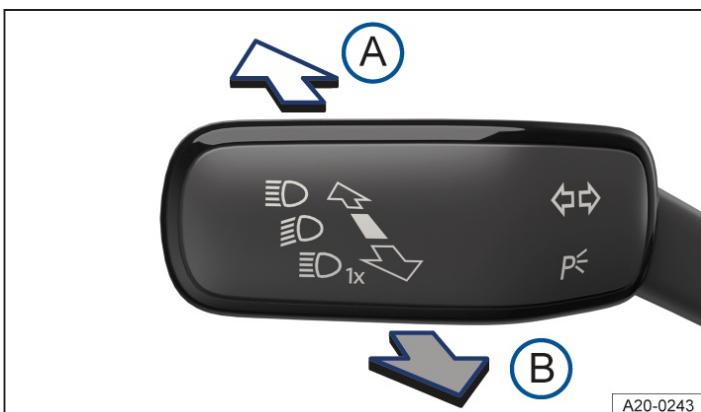

Fig. 1 On the left side of the steering column: turn signal and high beam lever.
2. Press the turn signal and high beam lever forward out of the center position → *fig. 1*.
1. Pull the turn signal and high beam lever backward out of the center position → *fig. 1*.
1. Pull the turn signal and high beam lever backward out of the center position and hold it → *fig. 1*.